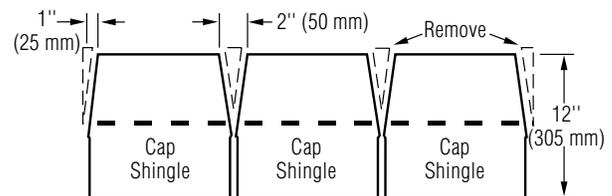

Figure 10-24: Cut tabs, then trim back to make cap shingles (English dimensions shown).
2. Make the caps by cutting full-length shingles at the tab cutouts. Trim the back end of the caps as shown in *Figure 10-24*.